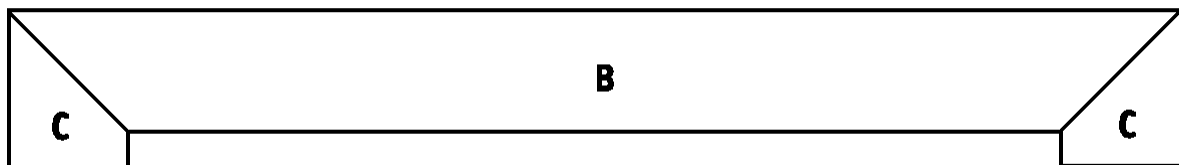

Figure 3
5. Following *Figure 3* as a guide, place the Front Support (B) face down on a level surface.